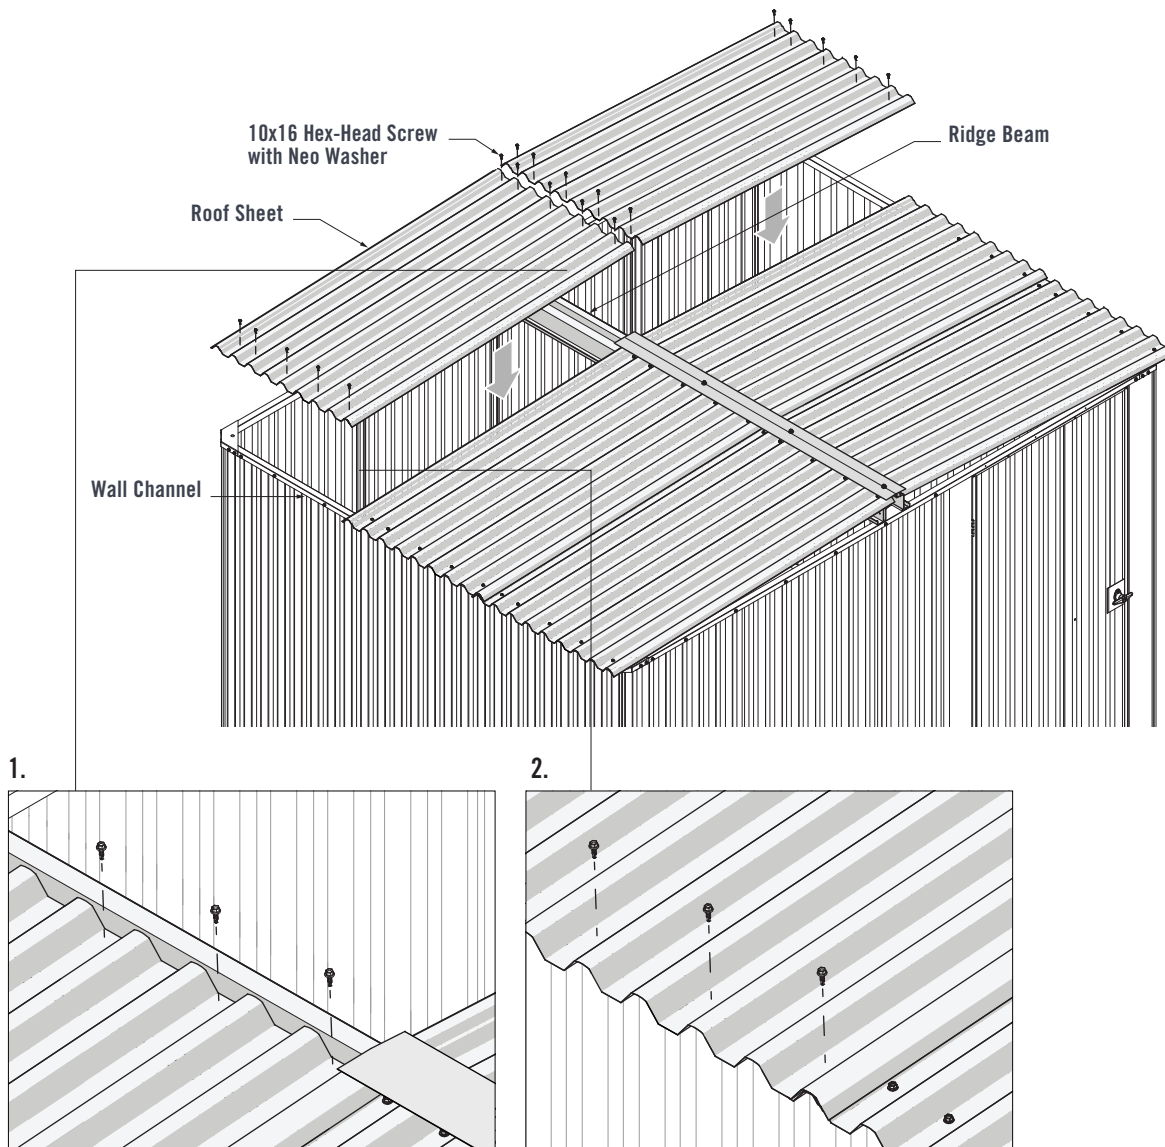

FIGURE 7.4
Refer to Sheet layout in Figure 7.2. Lay the next Roof Sheet onto the Ridge Beam and Wall Channel, ensuring the overlap end of the Roof Sheet is facing the front of the shed (Figure 7.4).
1. Ensure the Roof Sheet is hard against the step of the Ridge Beam. Fasten five 10x16 Hex-Head Screws with Neo Washers through the pans of the Roof Sheet and into the Ridge Beam (Figure 7.4).
2. Fasten five 10x16 Hex-Head Screws with Neo Washers through the pans of the Roof Sheet and into the Wall Channel (Figure 7.4).